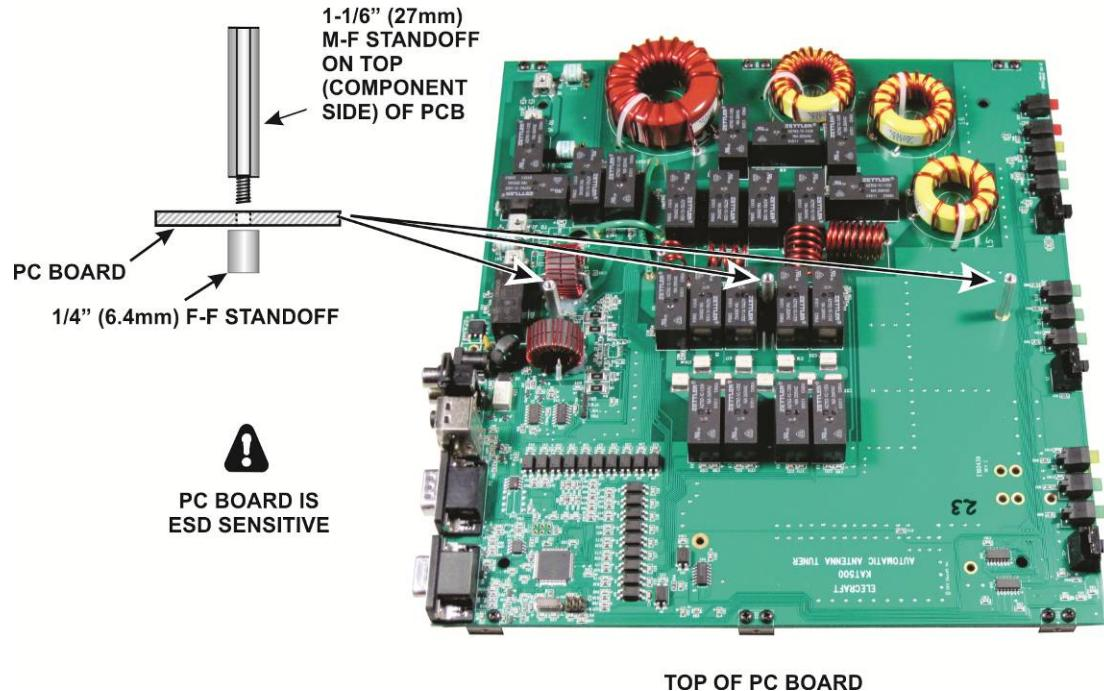

Figure 12. Install Standoffs on the PC Board.
- Install the three pairs of standoffs on the pc board shown in Figure 12. Do not use lock washers. The standoffs alone establish the right height.